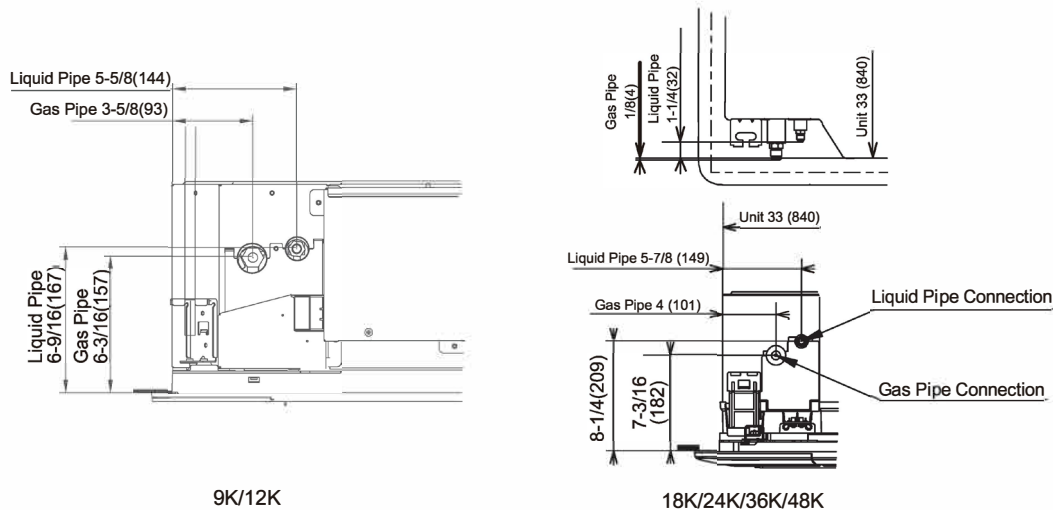

Fig. 4.1 Position of Piping Connection [Unit : in. (mm)]
(1) Position of piping connection is shown in Fig. 4.1.(Indoor Unit)